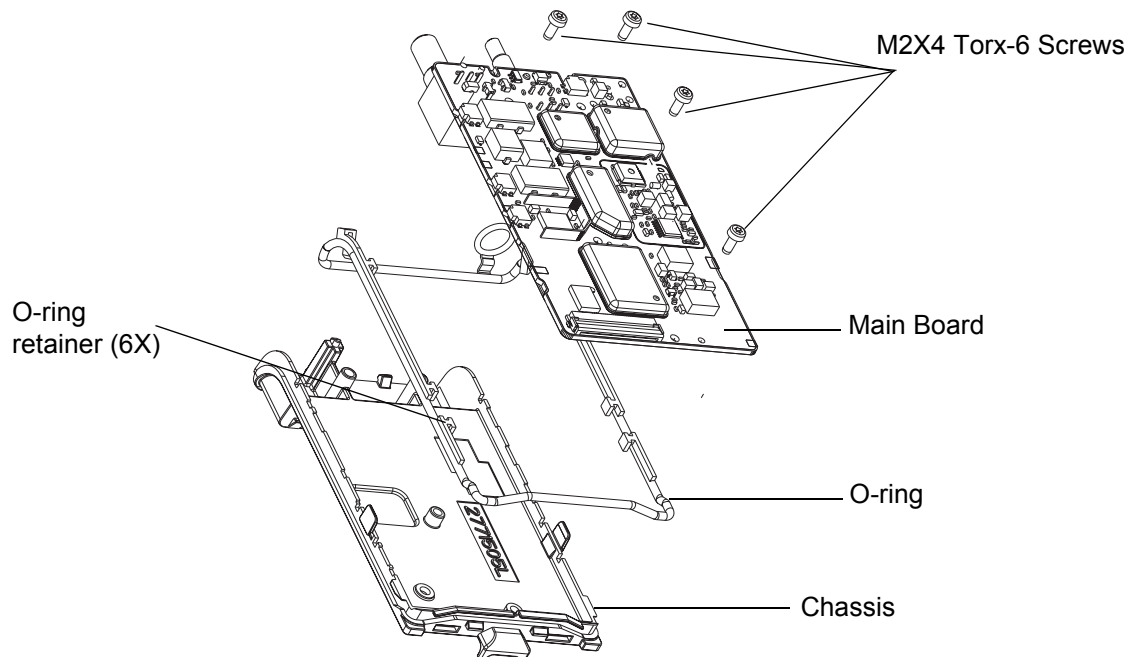

Figure 3-22 Remove Main Board from Chassis
1. Lift the main board from the chassis (See Figure 3-22).